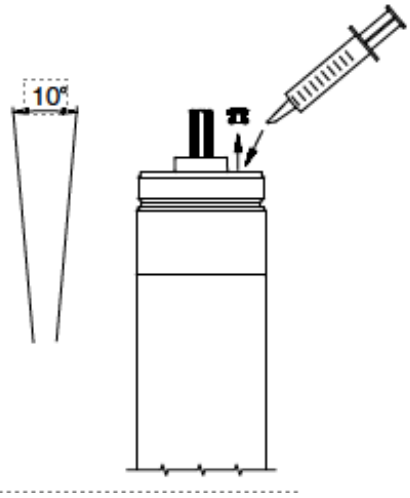

Figure 2-2: Injecting Motor Liquid
4. Inject motor liquid into the motor with a filling syringe or similar tool, see **Figure 2-2**.